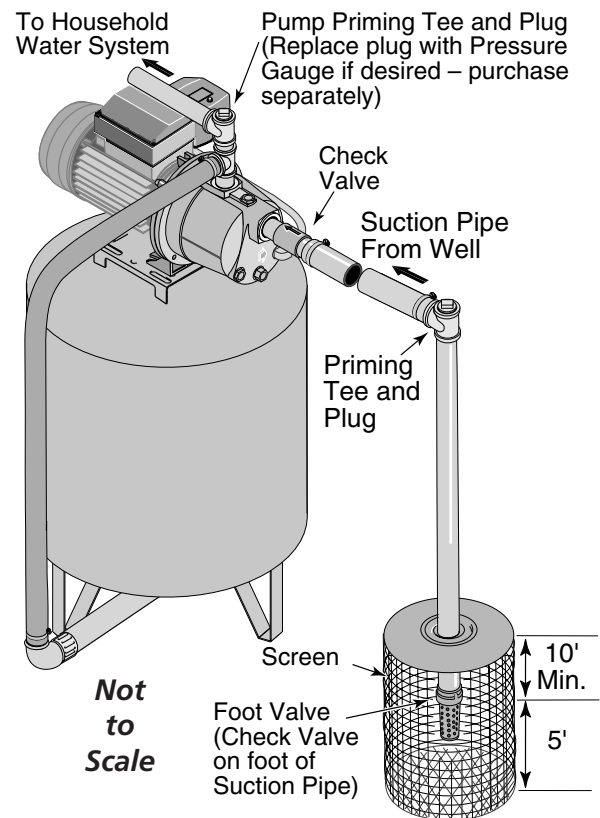

Figure 3 - Surface Water Installation
INSTALLATION FOR SURFACE WATER (FIGURE 3)
2. Assemble a foot valve and suction pipe (see Figure 3). Make sure that the foot valve works freely. Use teflon tape on threaded pipe joints. Protect the foot valve assembly from fish, trash, etc. by installing a screen around it (see Figure 3).
4. Install a priming tee, priming plug, and suction pipe to the pump (see Figure 3). Support the pipe so that there are no dips or sags in the pipe, so it doesn't strain the pump body, and so that it slopes slightly upward from the well to the pump (high spots can cause air pockets which can air lock the pump). Seal the suction pipe joints with teflon tape. Joints must be air-tight and water-tight. **If the suction pipe can suck air, the pump cannot pull water from the well.**